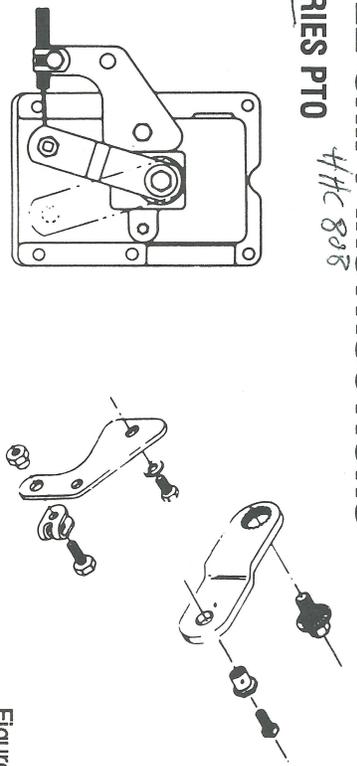

Figure 2.1
- 9.** Referring to Figs. 2.1, 2.2, 2.3 on page 2.2, install the appropriate brackets, clamps, and hardware.